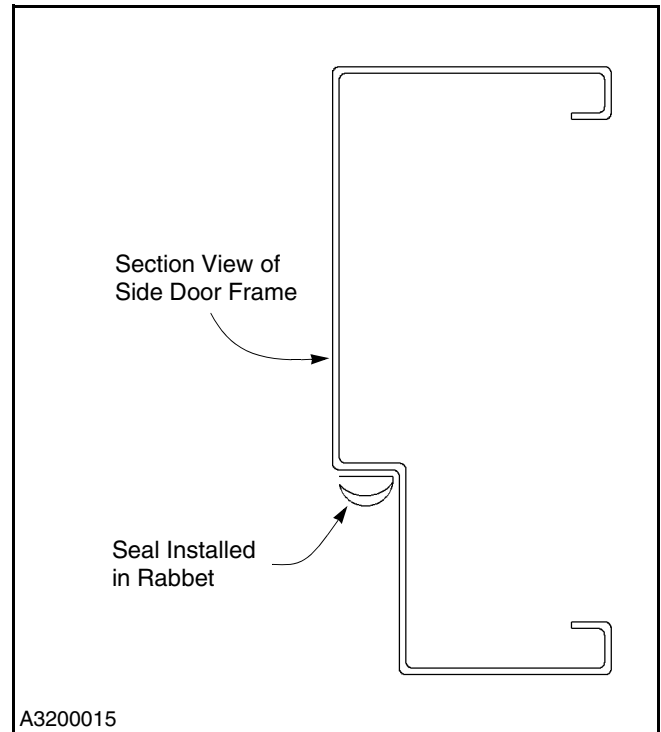

Figure 42
3. Remove adhesive backing from the seal and adhere to door frame. (See Figure 42.)